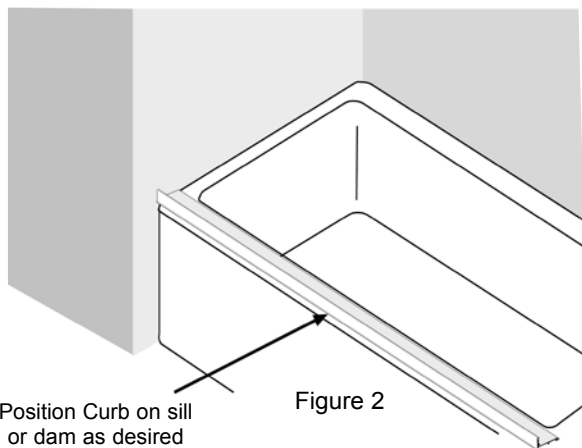

Figure 2
- B. Center the Curb (#2) on the sill/dam. In some installations, you may prefer to position the Curb (#2) forward or back of center. For example, by moving the Curb (#2) forward, you will slightly increase the depth within the shower area. See Figure 2.